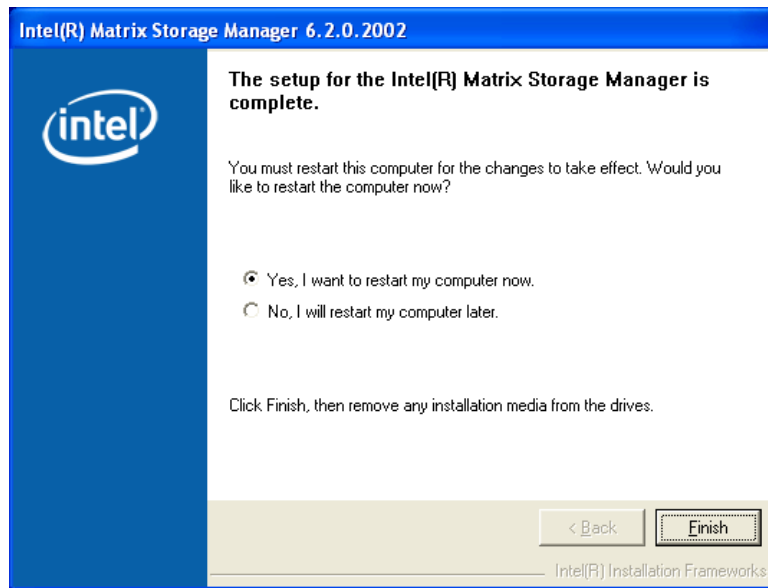

Figure 7-32: Matrix Storage Manager Setup Complete
Step 12: After the driver installation process is complete, a confirmation screen appears (**Figure 7-32**).